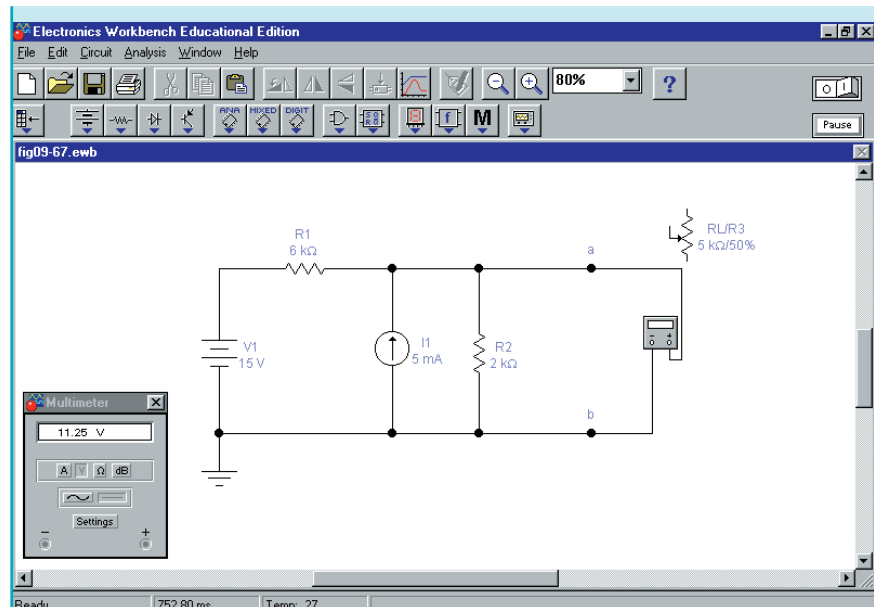

FIGURE 9-68
- The Thévenin voltage is measured by simply connecting the multimeter between terminals a and b . After clicking on the power switch, we obtain a reading of $E_{Th} = 11.25$ V as shown in Figure 9-68.